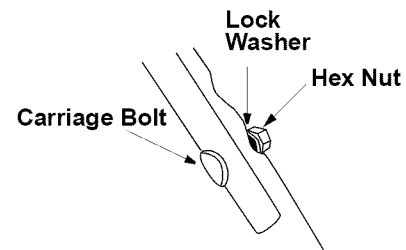

Figure 4
2. Secure the upper handle to the lower handle using the carriage bolts, lock washers and hex nuts from group 2 of the hardware pack. Make sure that the carriage bolt heads go on the outside of the handle. See Figure 4.